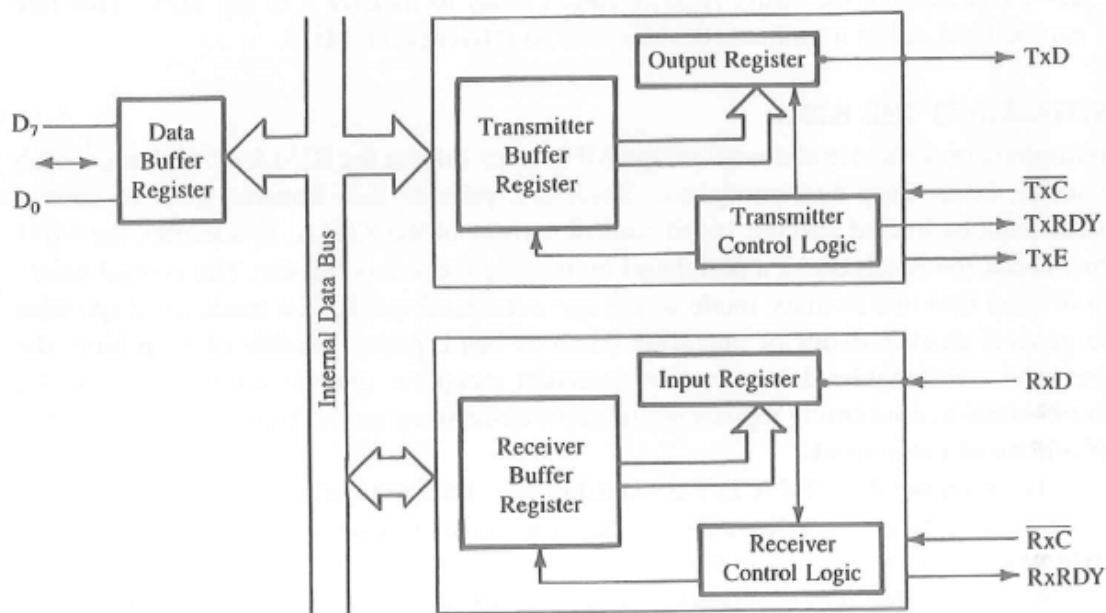

Figure 3.17 8251A Expanded Block Diagram of Transmitter and Receiver Sections
- Output register to convert eight bits into a stream of serial bits (figure 3.17)
- ❖ The section has two registers (figure 3.17);